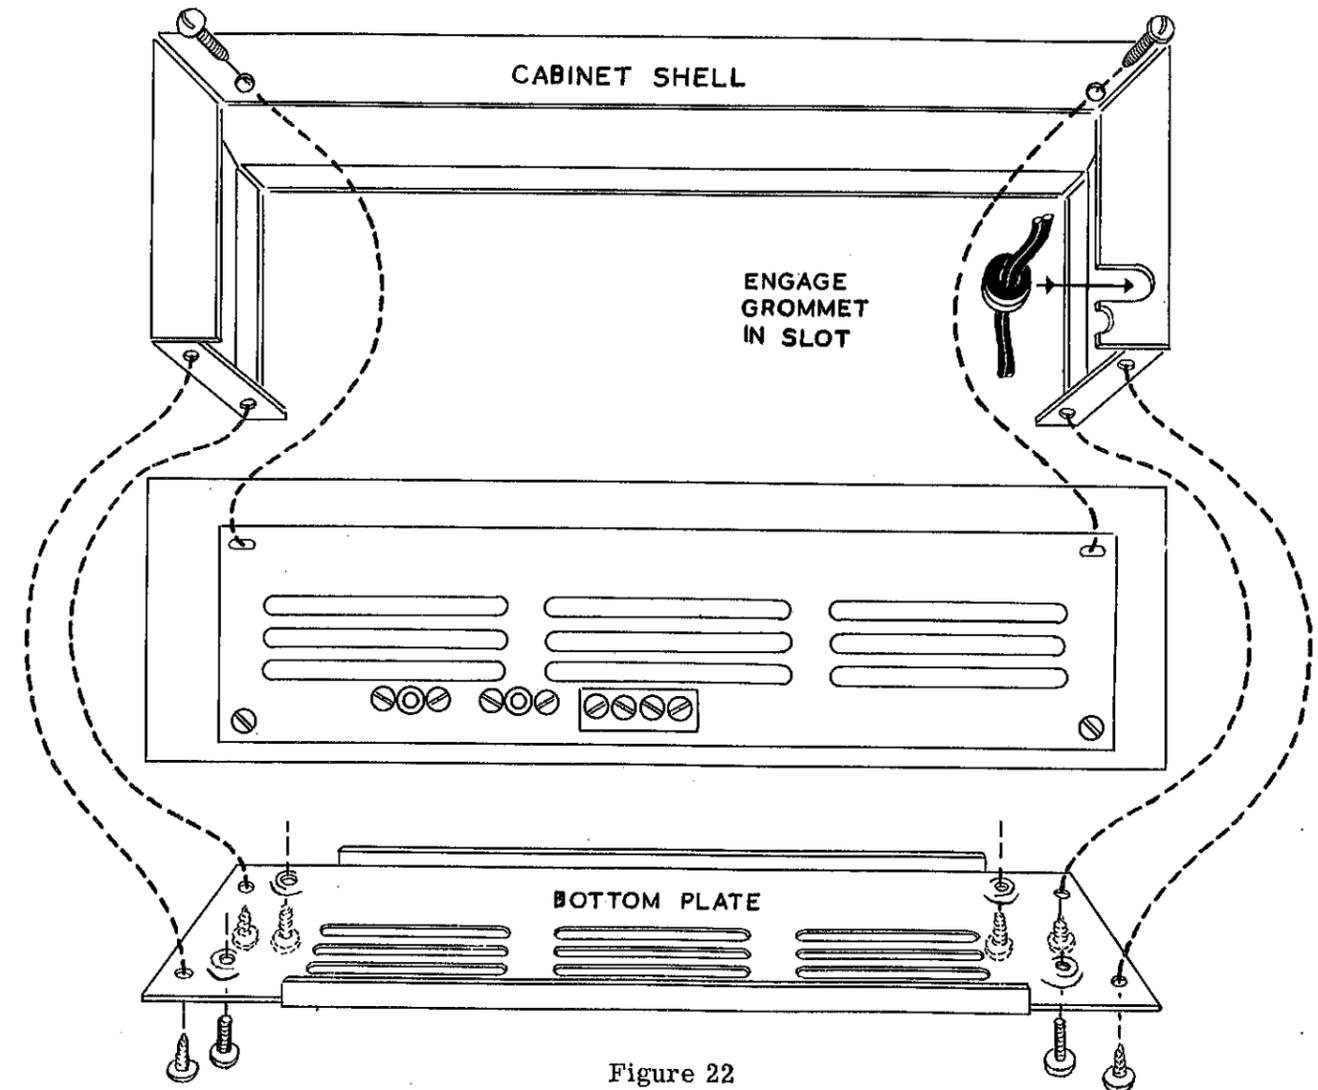

Figure 22
- () With the cooling vents to the rear, install the bottom cover as shown in Figure 22, using 6-32 self-tapping screws at each dimpled opening.